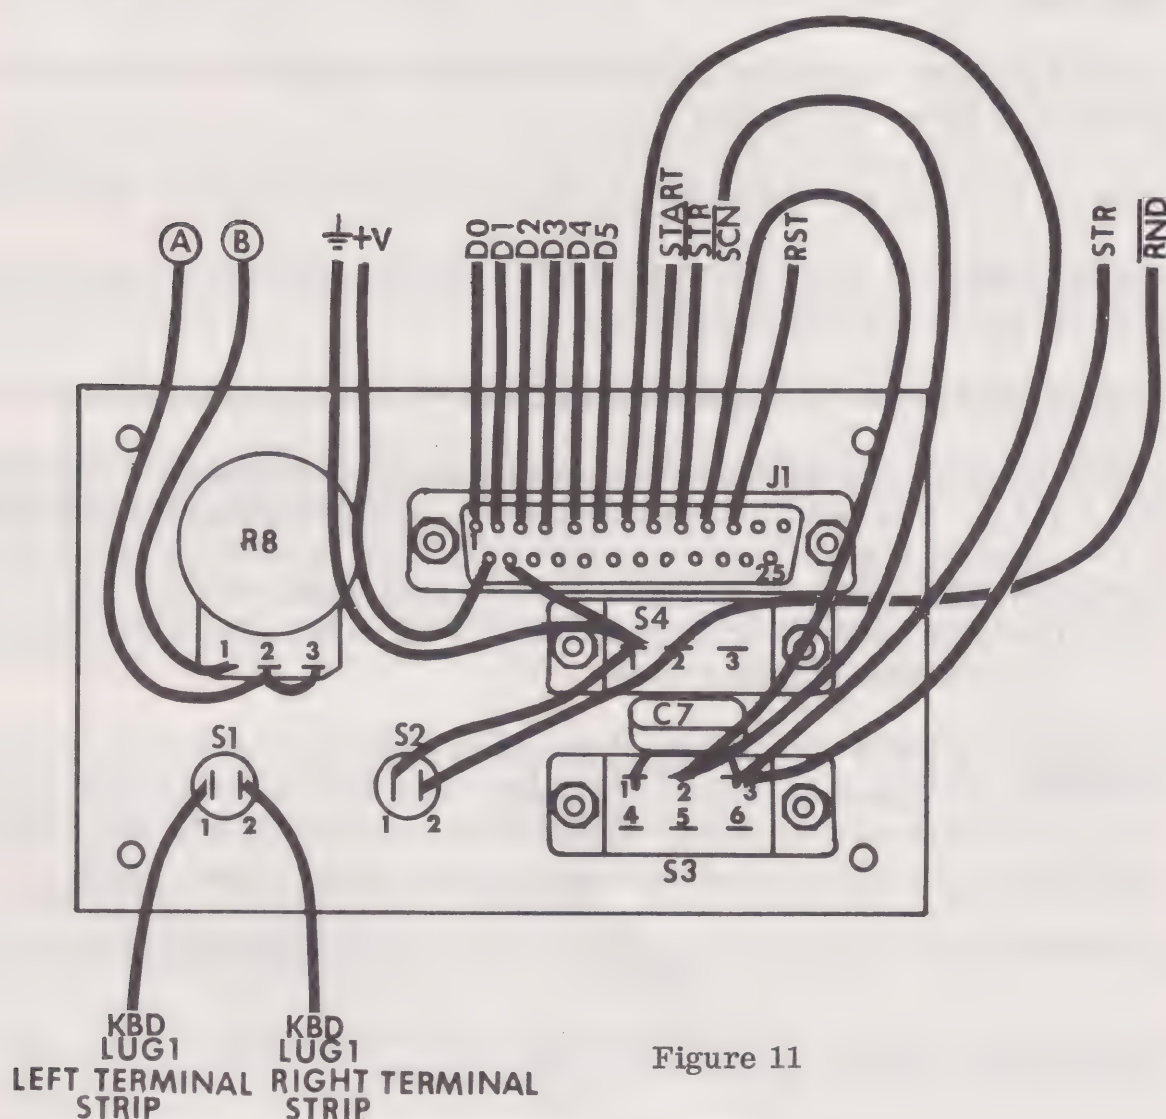

Figure 11
- () Select the DB-25S pin socket. Using two #4-40 X 1/4" machine screws, two #4 lockwashers, and two #4-40 nuts, mount the socket in location J1 as shown in figure 11. Make sure the socket is oriented as shown before mounting.
- () Select the single pole slide switch (S4) and mount as shown using two each 4-40 X 1/4" machine screws, #4 lockwashers, and 4-40 nuts. Orient as shown in figure 11.
- () Select the 500K potentiometer (R8) and mount as shown in figure 11. Use two 3/8" nuts, one behind the panel as a spacer, and the second as the mounting nut in front of the panel. Orient as shown before mounting.